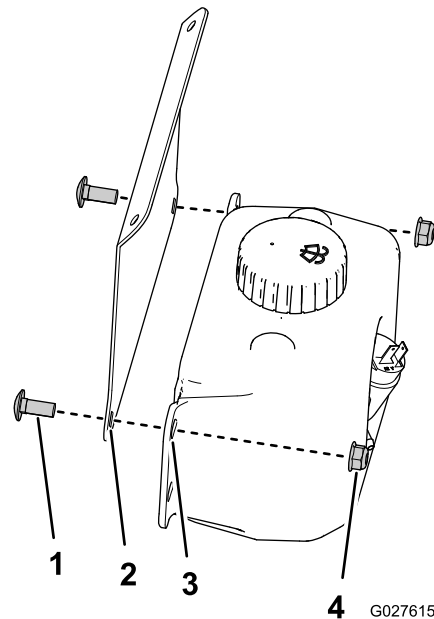

Figure 15
1. Assemble the washer-fluid tank to the washer bottle bracket-mount with the 2 carriage bolts (5/16 x 3/4 inch) and 2 locknuts (5/16 inch) as shown in Figure 15.